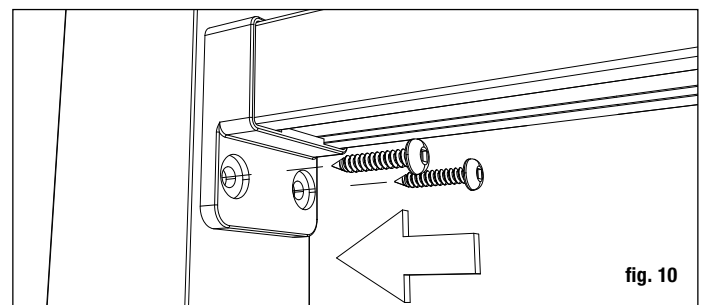

fig. 10
**Step 8** The finished rail height is typically a minimum of 36" or 42". Using the cable spacer, prop rail in place and level. Mark the bracket holes on both posts. Remove rail. Pre-drill screw locations through the posts, using a 3/16" drill bit at top bracket locations (fig. 10).
**Step 10** Position the rail between the posts. Check for level end-to-end and vertically. Attach brackets to the post at one end. Repeat for the other end. *Tip: Use a driver extension bit to avoid marring the rail with the drill chuck. Install all rails prior to installing cable* (fig. 10).